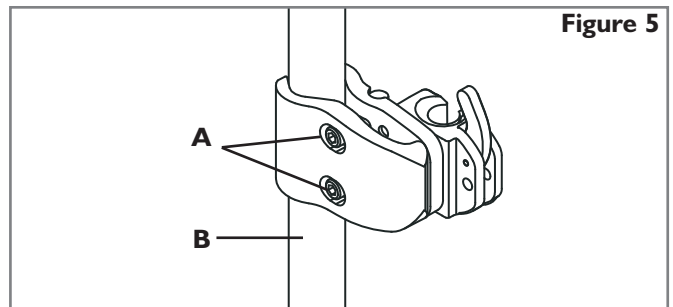

Figure 5
3. Attach the hardware receivers. (Fig. 5)
- a. Loosen the clamp screws (A) with the enclosed 4mm hex key. NOTE– For large tube diameters, clamp screws may have to be removed completely.
- b. Attach and align receiver to the wheelchair back canes (B).
- c. Hand tighten clamp screws (A). NOTE– Receivers may require additional lateral adjustment to ensure proper alignment.